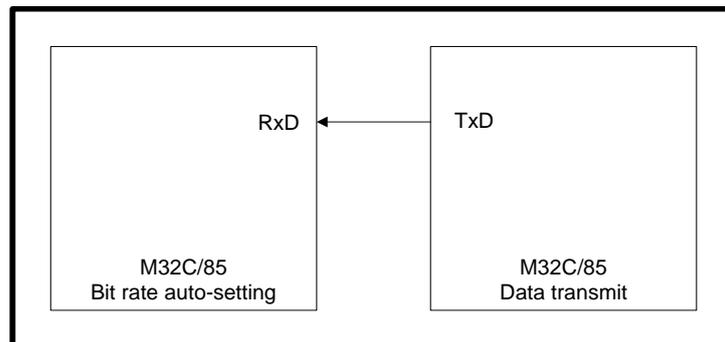

Figure 1. Circuit Connection for UART auto bit-rate setting
A) Figure 1 shows an example of circuit connection for UART auto bit-rate setting.